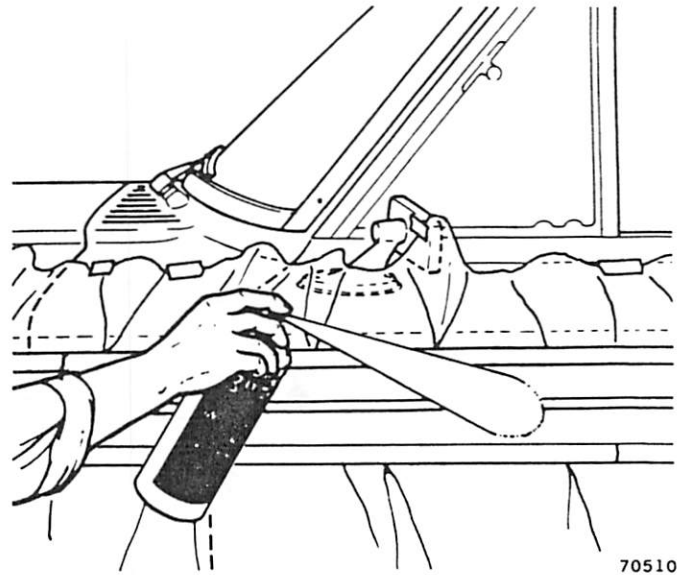

Fig. 3P-1 Spraying Remover on Decal
- (1) Clean repair surfaces, adjacent panels and openings as required.
- (2) Remove decal overlapping parts from affected panel.
- (3) Mask off area surrounding panel.
- (4) Scuff sand decal with 220 grade wet or dry sandpaper. Avoid cutting through and reclean decal.
- (5) Spray 3M Woodgrain and Stripe Remover, or equivalent, on flange area first. Then spray entire decal to be removed (fig. 3P-1). Move spray back and forth across entire decal in a smooth steady motion. Make sure entire decal is coated with remover.